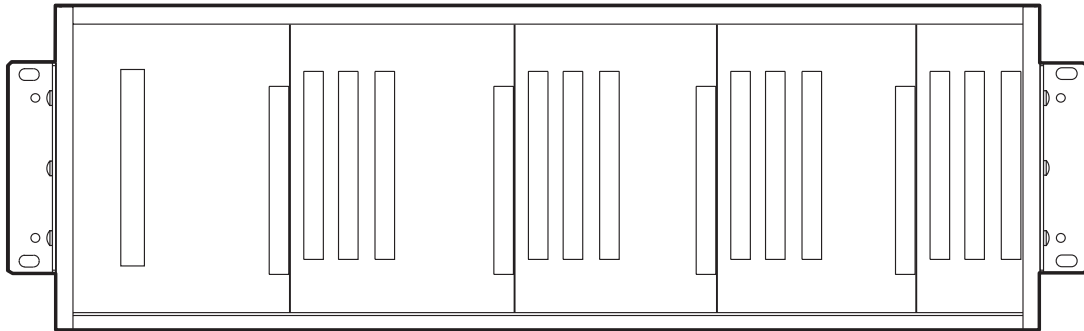

Figure 1. Front View of FCS-719 COT Shelf
- 1.1** The PairGain® PG-Flex™ FCS-719, List 1D Central Office Terminal (COT) 23" Shelf supports four PG-Flex subscriber carrier systems (Figure 1). The FCS-719 provides convenient mounting of COT Alarm, Line, and Channel Units, as well as termination points for subscriber circuits, alarm, power, and metallic test access. The FCS-719, List 1 COT Shelf provides 25-pair male Amphenol connectors for subscriber connections. All circuit boards are installed from the front of the shelf. Interconnections for the PG-Flex units are located on the backplane at the rear of the shelf.